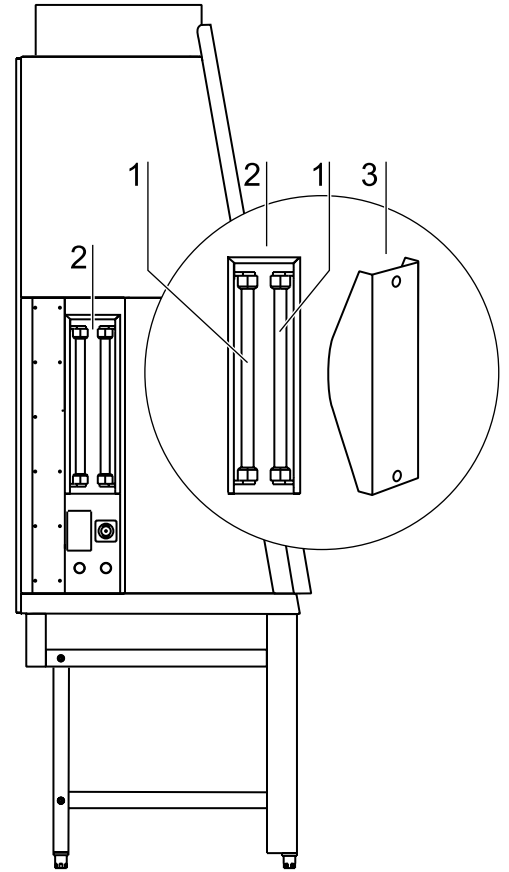

Fig. 9
**Fig. 9:** The UV lamp unit (optional) consists of two lamp housings [2] with two UV lamps each [1] that are integral to the side walls. Both lamp housings are protected by a stainless steel cover [3].